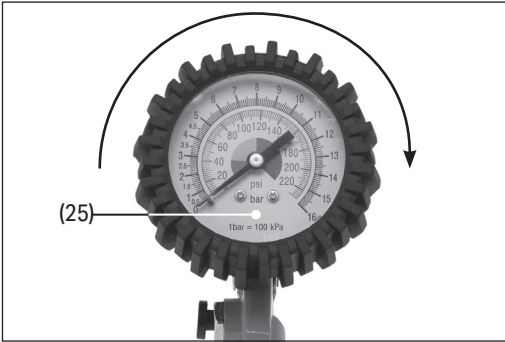

Fig. 16
- 4. Observe the value indicated on the appropriate scale of the pressure gauge (25) (Fig. 16).